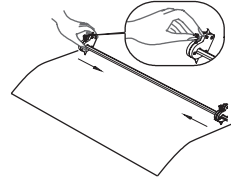

Figure 1
1. Adjust the left and/or right slitters by loosening the slitter adjuster knob (located between the front and rear rollers.) (Figure 1)